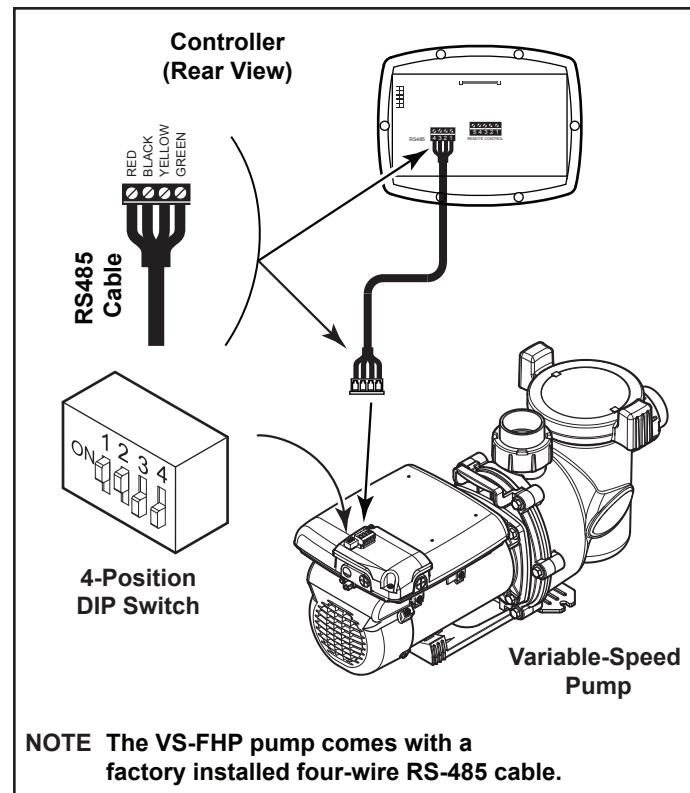

Figure 9. Wiring Variable-Speed Controller (JEP-R) to VS-FHP Pump
6. Slide dip switches 1 and 2 up, so they are in the ON position, and slide switches 3 and 4 down, so they are in the OFF position. See Figure 9.
4. Attach the four (4) wires in the RS-485 cable to the RS-485 connector. Match the wire colors with the positions on the connector: 1- red, 2- black, 3- yellow, and 4- green. See Figure 9.
As shown in Figures 9 and 10, the 4-position dip switch is located at the rear of the VS-FHP pump. This dip switch serves two (2) functions: it selects the pump address, and it determines what type of controller will be used with the pump. The tables below show the dip switch settings.